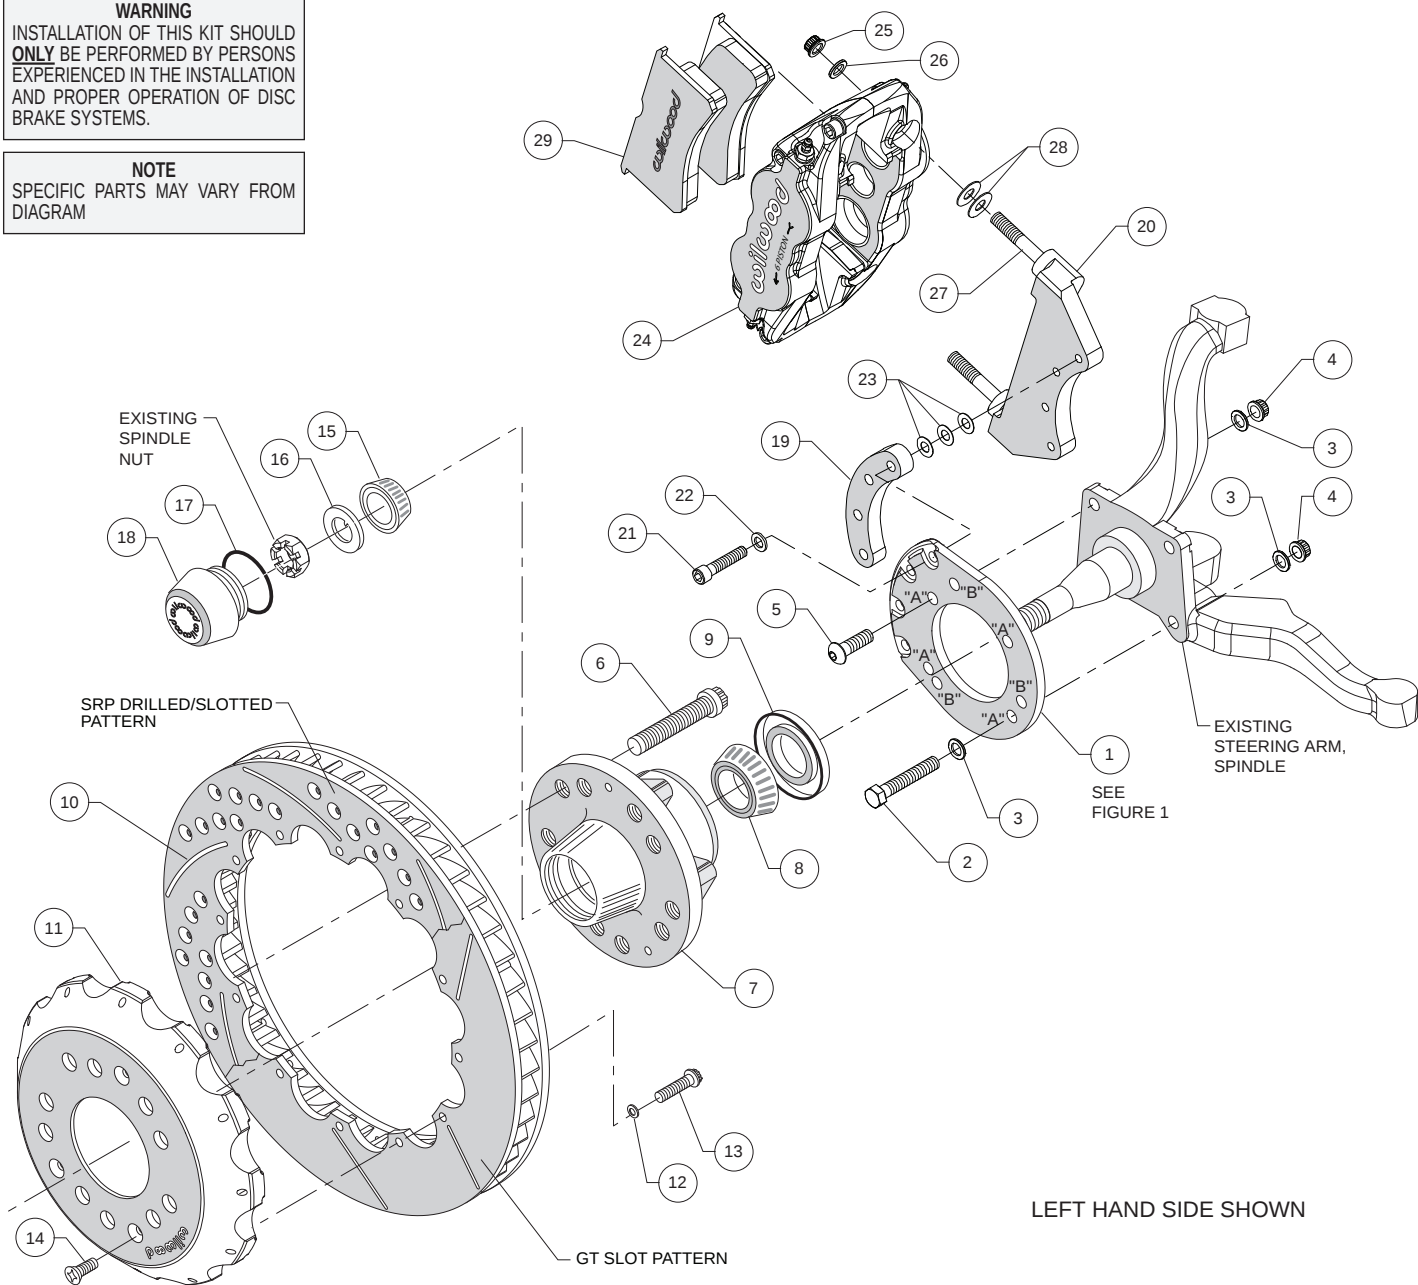

Figure 2. Typical Installation Configuration
Assembly Instructions (numbers in parenthesis refer to the parts list and Figure 2 on the preceding pages):
•Align bracket, using the four "A" holes, to the face of the spindle and attach using bolts (2 and 5), washers (3), and lock nuts (4), as shown in Figure 2 and Photo 1. Temporarily tighten the mounting bolts. **NOTE:** The bracket must fit squarely against the mounting points on the spindle. Inspect for interference from casting irregularities, machining ridges, burrs, etc. Torque lock nuts (4) to 25 ft-lb.
•Install wheel studs (6) into the hub (7), Photo 2. Torque to 77 ft-lb. **NOTE:** There are two five lug patterns in the hub (5 x 4.50 and 5 x 4.75). Ensure the correct hub stud pattern is being used to fit the wheel application.
•Pack the large inner bearing cone (8) with high temperature disc brake bearing grease (available from your local auto parts store) and install into the backside of the hub (7), Photo 3.
•Install the grease seal (9) by pressing into the backside of the hub (7), flush with the end of the hub, Photo 3.
•Pack the small outer bearing cone (15) with high temperature disc brake bearing grease and install into hub (7). Slide the hub assembly onto the spindle. Secure using spindle washer (16) and OEM spindle nut, Photo 4. Adjust bearings per OEM specifications. Install saved OEM nut lock (if any) and a new cotter pin (not included).
•Screw dust cap (18) into hub (7), Photo 5. Friction created by the o-ring (17) on the dust cap keeps it from unscrewing. **NOTE:** The O.D. of the existing OEM spindle washer may be larger than the I.D. of the dust cap not allowing it to seat against the hub face. Therefore, use the spindle washer (16) supplied with the kit instead of the OEM washer.
•Orient the rotor (10) and the hat (11) as shown in Figure 2 and Photo 6. Attach rotor to hat using bolts (13) and washers (12). Using an alternating sequence, apply red Loctite® 271 to the
- Slide the hat/rotor assembly (10/11) onto the hub (7) taking care to align the small countersunk holes in the hat with the small threaded holes in the hub (7). **NOTE:** The hat must fit flush against the hub face or excessive rotor run out may result. Install three flat head screws (14) through the small holes in the hat, Photo 5, and torque to 85 **in-lb.**
- Attach the caliper mounting bracket (20) to the spindle bracket (1) using bolts (21), washers (22), and spacer (19) as shown in Figure 2 and Photo 7. Initially place three .015" thick shims (23) on each bolt between the spacer and the caliper bracket. Temporarily tighten the mounting bolts. Later, after the caliper alignment has been checked, the mount bolts will be secured using red *Loctite*® 271.
- **NOTE:** This kit contains distinct right and left hand calipers that must be mounted in a specific direction, as described below. Lubricate the caliper mounting studs (27) with lightweight oil. Initially place two .035" thick shims (28) on each stud between the caliper and the bracket, as shown in Figure 2 and Photo 8. Mount the caliper (24) onto the bracket (20) using lock nuts (25) and washers (26), Figure 2. Ensure that the caliper is mounted so the largest pistons are at the rotor exit end of the caliper, in relation to the direction of rotor rotation. Temporarily tighten the lock nuts and view the rotor through the top opening of the caliper. The rotor should be centered in the caliper, Photo 9. If not, adjust by adding or subtracting shims (23) between the caliper bracket (20) and the spacer (19). Always use the same amount of shims on each of the four mounting bolts. Once the caliper alignment is correct, remove the bracket mounting bolts one at a time, apply red *Loctite*® 271 to the threads, and torque to 25 ft-lb.